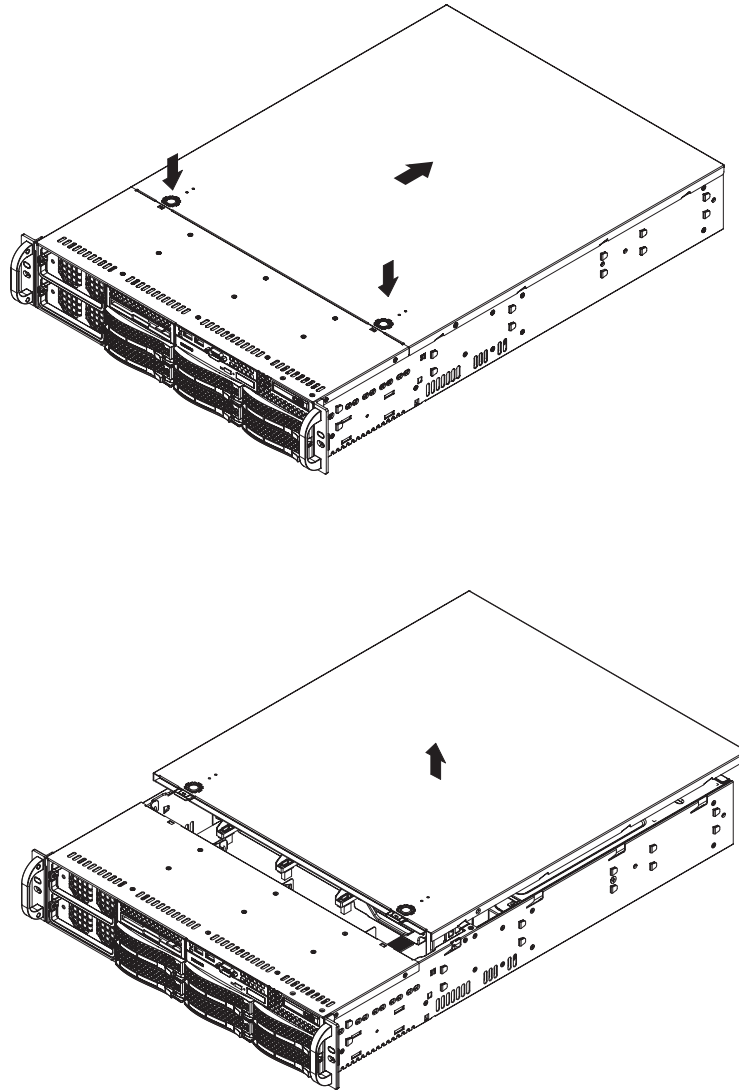

Figure 2-3 Accessing the Inside of the System
2. Depress the two buttons on the top of the chassis to release the top cover as shown in Figure 2-3.